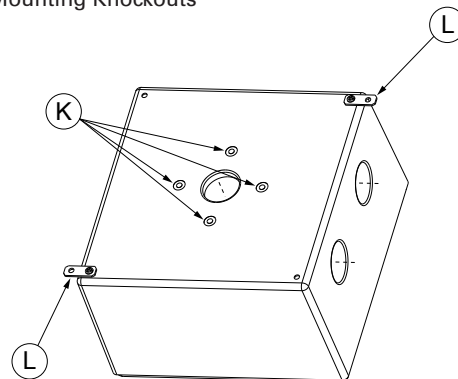

Figure 2. Mounting Options
1. Remove the cover plate (E) from the enclosure.
2. Remove the motor starter (C) with the pilot light (D), the hand / auto switch (B), the wiring diagram, heater pack diagram, and the packaged mounting lugs & closure plugs from the enclosure (A).
4. Mount the enclosure into location utilizing the mounting lugs or by using the integral mounting knockouts as shown in Figure 2.